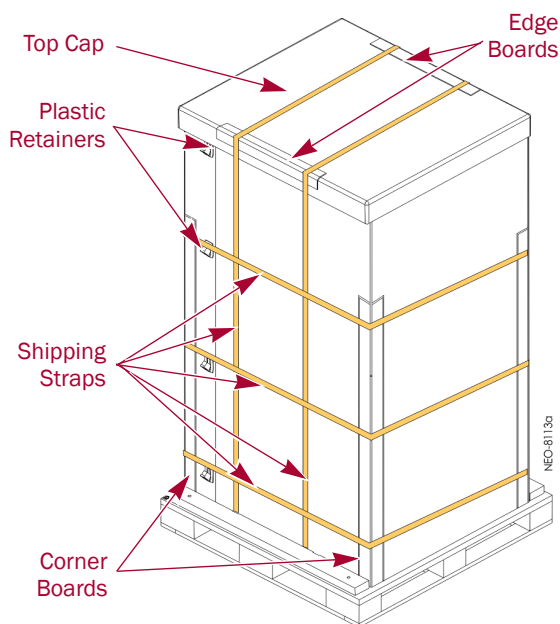

Figure 3. Library Packaging Components (Rear View)
2. Remove the **outside** packaging (Figure 3).
- f. Remove the two (2) large pieces of **cardboard** surrounding the library.